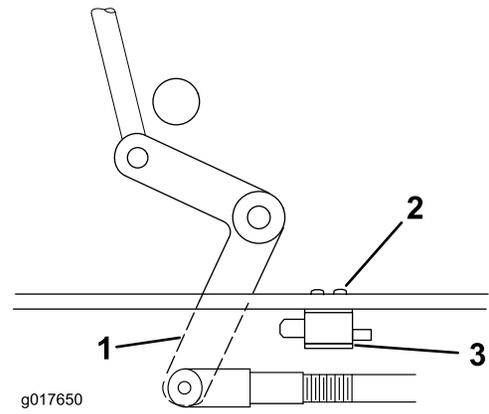

Figure 52
4. If needed, adjust the blade safety switch by loosening the screws holding the switch (Figure 52).
Note: Make sure the bellcrank **does not** touch the switch body or damage to the switch could occur (Figure 52).